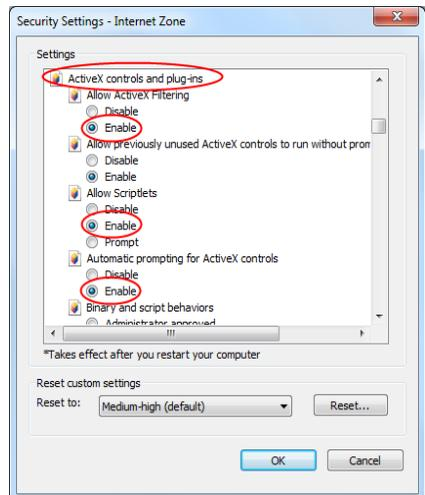

Fig 8-2
- ③ Enable all the sub options under “ActiveX controls and plug-ins”. Refer to Fig 8-2.
- ④ Then click “OK” to finish setup.